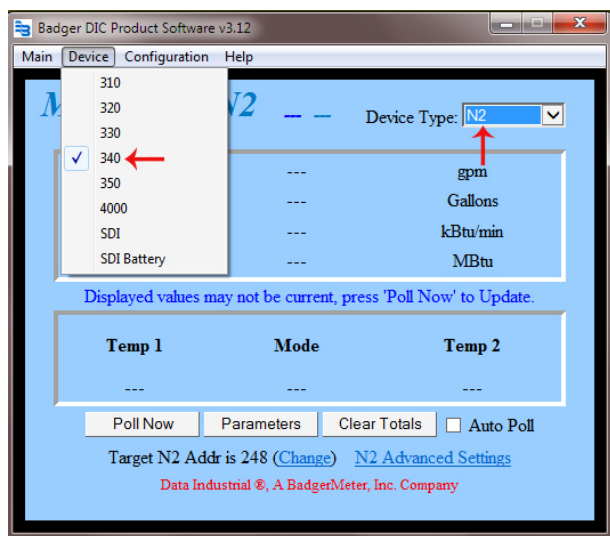

Figure 11: Device 340 N2
5. Select **340** from the **Device** option in the menu bar and **N2** from the **Device Type** drop-down menu as shown in Figure 11.